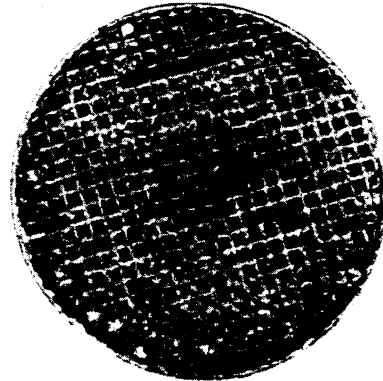

Figure 21
- Plugging (**Figure 21**) The catalyst cells can be plugged with char, fly ash, or creosote. Burning garbage, cardboard, or wrapping paper produces excessive amounts of char and ash. Creosote plugging occurs when burning wet or pitchy wood or large loads on very low draft settings without